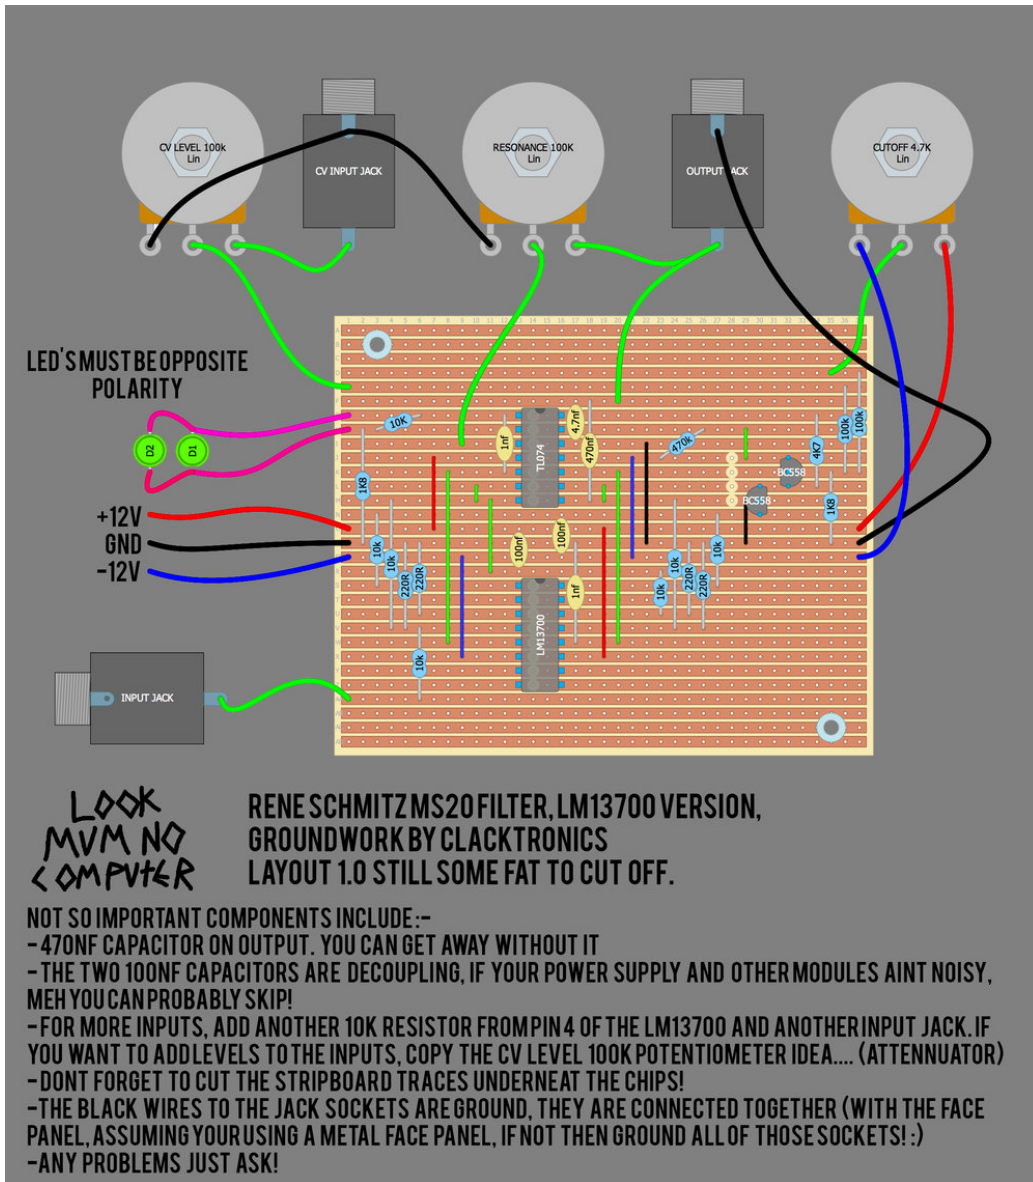

Figure 10: Low Pass VCF of Sam Battle (Look Mum No Computer)
⁶Stripboard design in appendix - figure 10
- Figure 10: <https://www.lookmumnocomputer.com/projects#/simple-filter>, 19.10.2019.